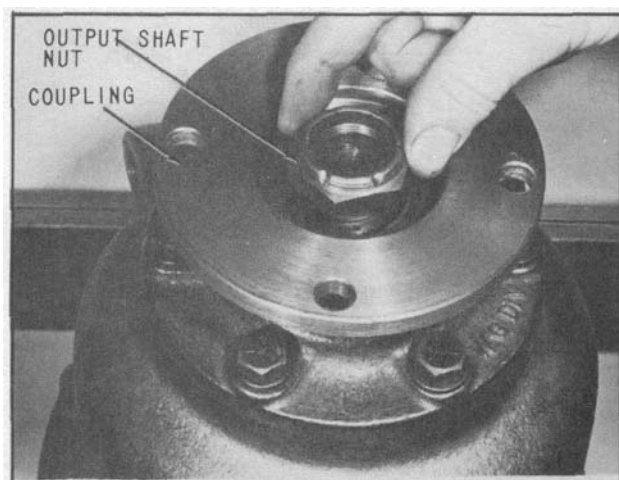

Fig. 30 Installing Output Shaft Nut
32. Assemble main shaft nut as shown in (Fig. 30) and tighten to 100-200 pounds feet.